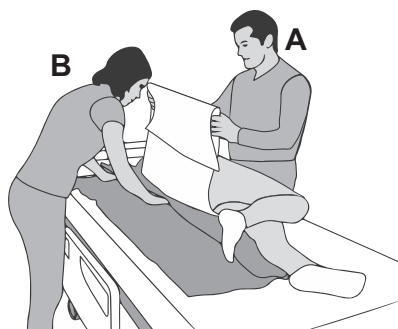

Figure 7
6. (Caregiver B) Place the sliding aid under the patient, between the draw sheet and the transfer surface. **(See Figure 7)** With shorter sliding aids, place the sliding aid under the body part that is being adjusted.